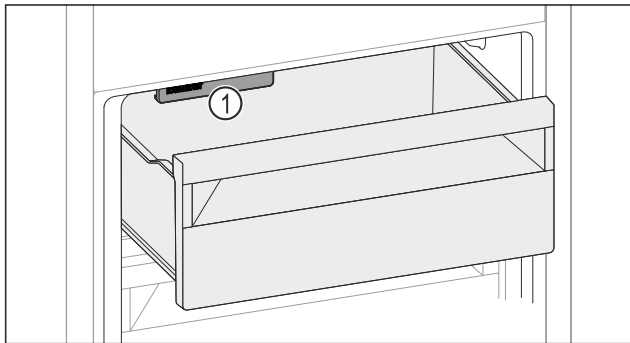

Fig. 153
- ▶ Watch out for the IceMaker Fig. 153 (1).